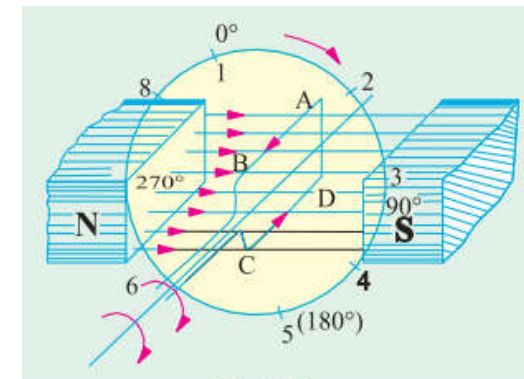

Fig. 26.2
- ❖ Let, a coil is rotating clock-wise direction having two sides *AB* and *CD* (**Fig. 26.2**). As the coil cuts the magnetic field, according to Faraday's law of electromagnetic induction an emf is induced in it which is proportional to the rate of change of flux ( $e=Nd\phi/dt$ ).